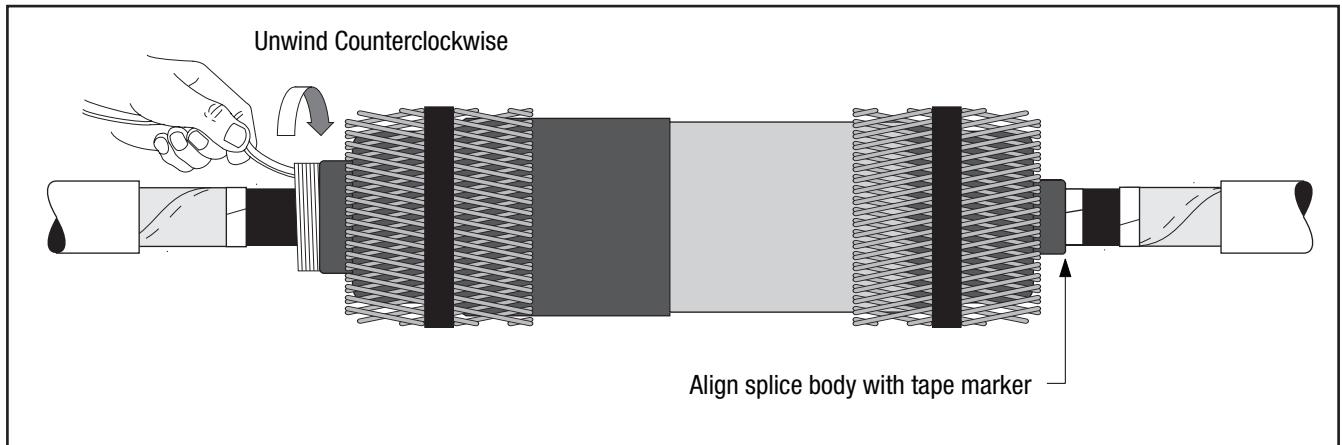

Figure 13
- 4.5 Position the splice body over connector area, aligning end of the splice body (not the core) at the center of the tape marker. **Slowly** start to remove the splice core by pulling and unwinding the loose core end counterclockwise, allowing only 1/4" (6 mm) of the splice to shrink onto the tape marker. Carefully slide the splice body off the tape marker by pulling and twisting until the entire tape marker is exposed. Continue removing the core to complete the splice body installation (*Figure 13*).